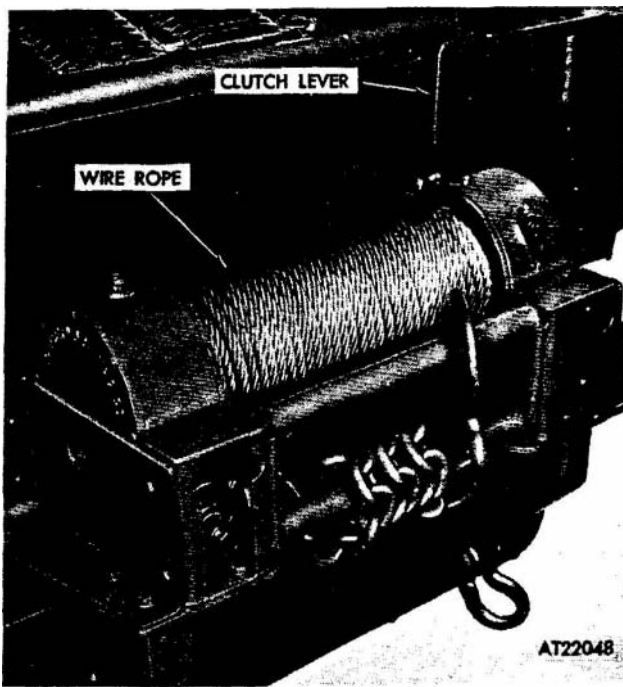

Figure 3-35. Winch assembly.
a. *Winch Assembly.* The winch assembly (fig 3-35) is of the drum type with a four-ton capacity incorporating a worm-gear brake capable of sustaining a load should delivery of power to the drum be interrupted. The hand operated sliding
b. Winch Rope Assembly. A cable, (fig 3-35) 150 ft. long, of 7 / 16 inch diameter fibre core wire rope terminated with a short chain and hook, is stored on the drum of the winch.
c. *Winch Clutch Lever.* The winch clutch lever is located on the left hand side of the winch and is utilized to engage or disengage the winch drum jaw clutch (fig 3-35). The clutch is engaged by moving the lever away from the drum and disengaged by moving the lever toward the drum.